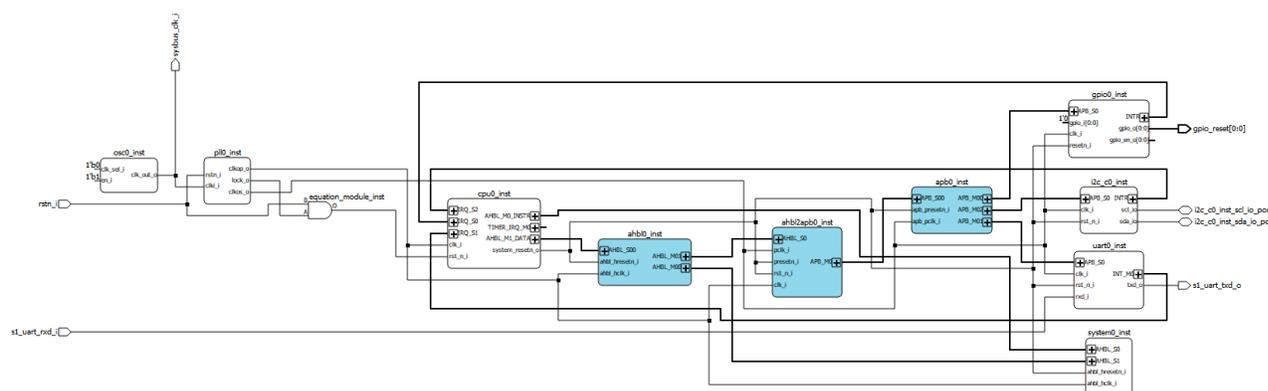

Figure C.1. Overview RISC-V SoC System in Lattice Propel Builder
- Lattice Propel SoC project (Figure C.1). The hardware portion of the project builds and generates the RISC-V SoC system that contains a CPU and peripherals that are instantiated in the FPGA portion of the Avant Versa board using Lattice Propel Builder.